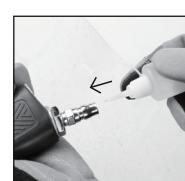

Figure 7
3. Place 2-3 drops of air tool oil (not included) into the male plug before each use. (See Figure 7)
- Place a few drops of air tool oil into the air inlet.(See Figure 7)